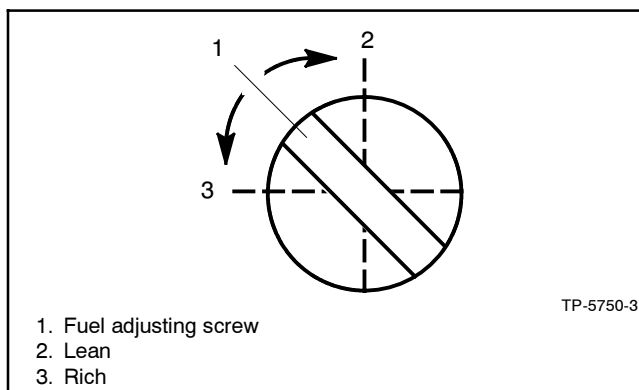

Figure 9-11 Fuel Mixture Adjustment, Typical
2. **Preliminary Setting:** Turn main fuel adjusting needle out (counterclockwise) 1 1/2-2 1/2 turns. Turn the idle mixture adjusting needle (if used) out (counterclockwise) 1/2-1 turn. See Figure 9-11.
2. Adjust the engine fuel mixture screw (Figure 9-11) until the engine runs smoothly.